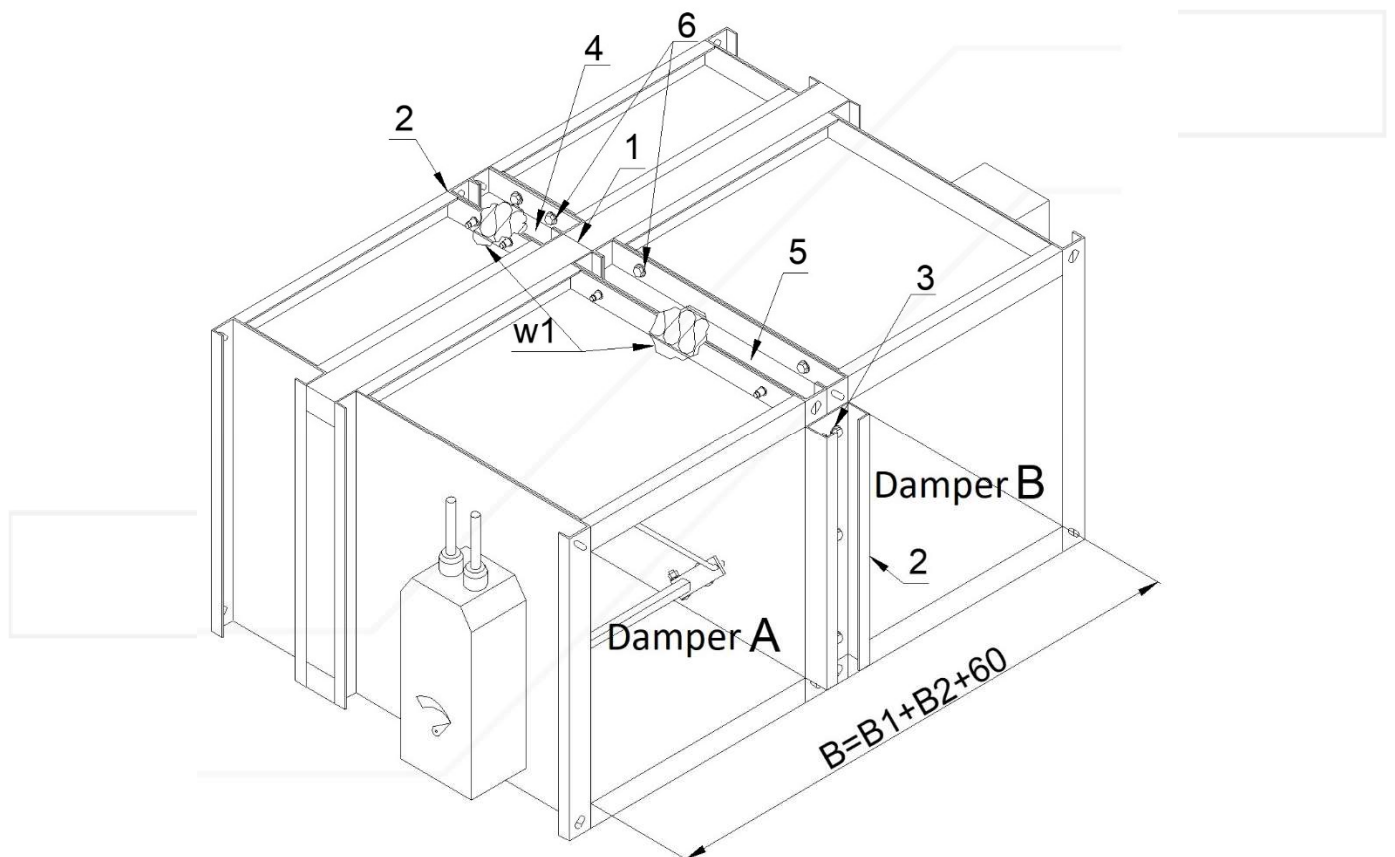

Figure 15. Arrangement 3 – horizontal battery consisting of two fire dampers KWP
- a. Fix the PROMASEAL-PL gasket with a cross-section of 20×1.8 mm on insulating spacer of one of adjoining fire dampers (position (1) in the Figure 15).
- b. Set together the sides of fire damper A and the fire damper B (where the gasket was fixed) and assemble them together on the front and back with use of perforated assembly strips (2) and self-tapping screws M6×10 (3), which should be tightened into the openings in fire damper body. In order to carry out the correct assembly, 4 self-tapping screws should be used per each assembly strip with length of 1200 [mm].
- d. The place of sealing the top of the fire damper with mineral wool should be sealed with aluminum tape (4).
- For vertical battery consisting of two KWP fire dampers:  $(B1+120) \times (H1+H2+180)$  (Figure 15),